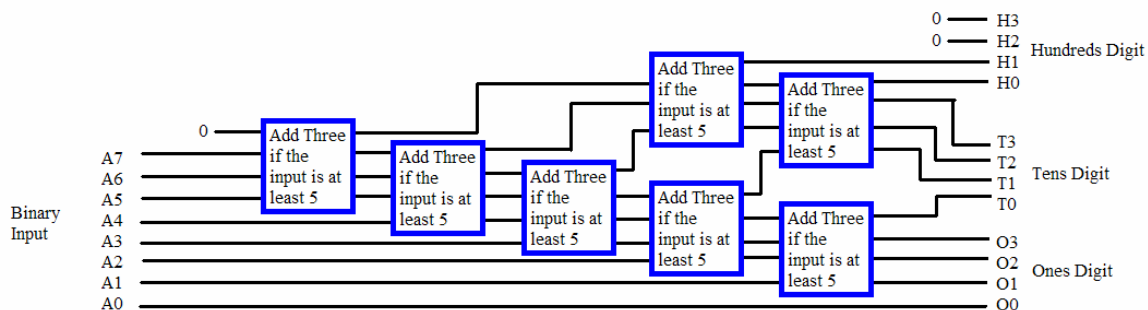

Figure 3: Binary to BCD Converter
5. In Figure 3, write down the values of the input and output of each block on the schematic for a conversion of 10111010_2 . Verify the output by converting 10111010_2 to BCD by hand, and make sure the outputs correspond. Hand in a copy at the start of the lab.
5. With the previous module, create the binary to BCD converter, following the schematic in Figure 3. Again, run a simulation of the converter to make sure it works.